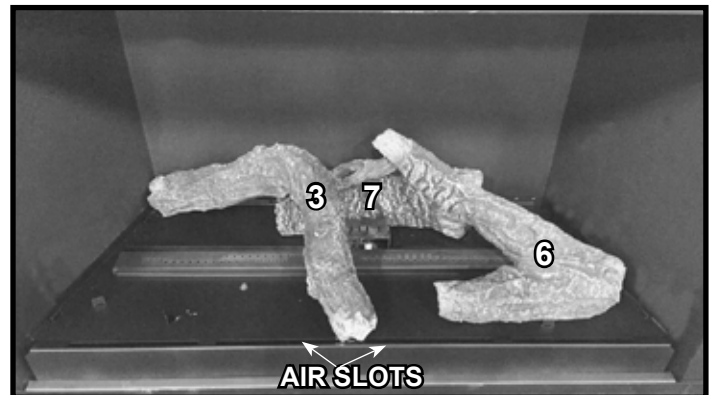

Figure 29. Place Log #3
10. Install Log #3 by placing it on the base pan as an arch where one end contacts the back left corner of the firebox and the other end rest on the sheet metal between two air slots on the front of the base pan. Log #3 should lean back and rest on Log #7. See Figure 29.